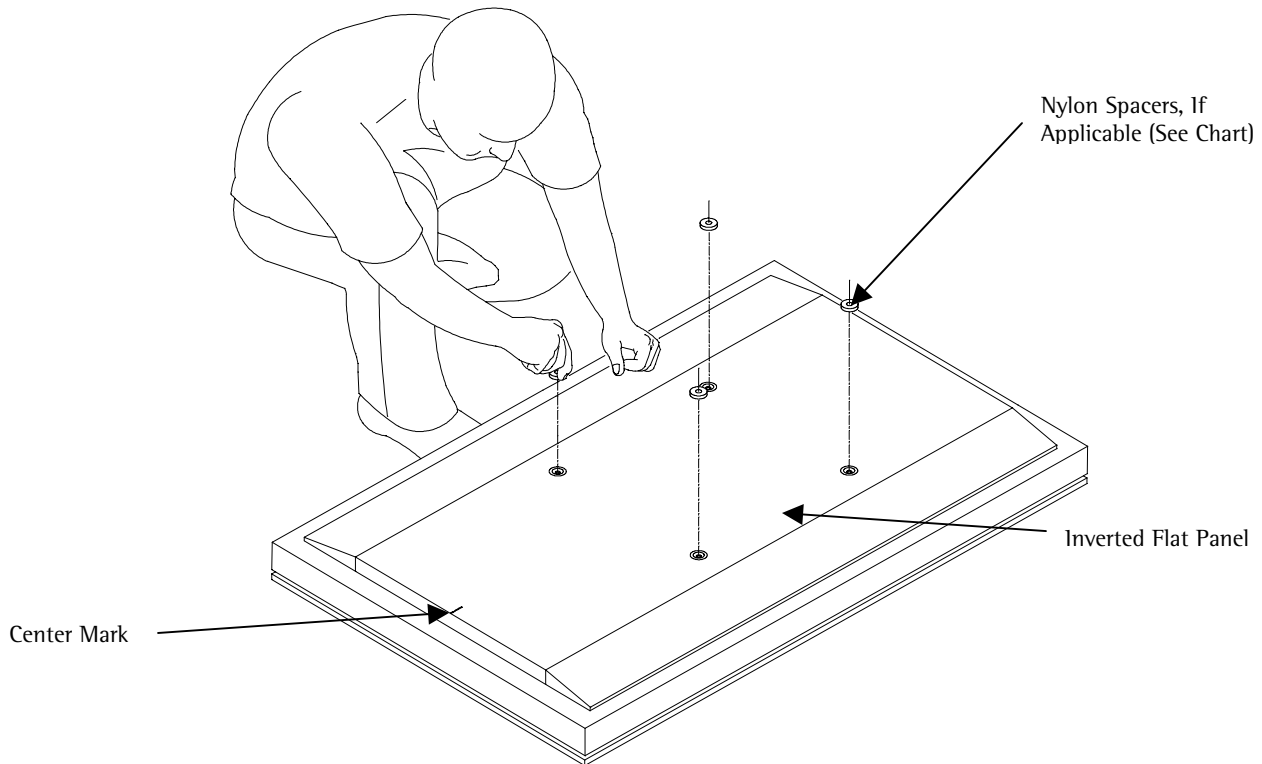

Figure 3. Mounting Bracket Positioning
1. Install the nylon spacers to the mounting points on the flat panel (Figure 3)